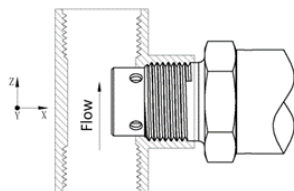

Figure 2. Installation Method (1)
- Water flowing from the bottom up in the pipe keeps the conductivity cell full of water and prevents air bubbles and air buildup while ensuring accurate measurement. As shown in Figure 2.